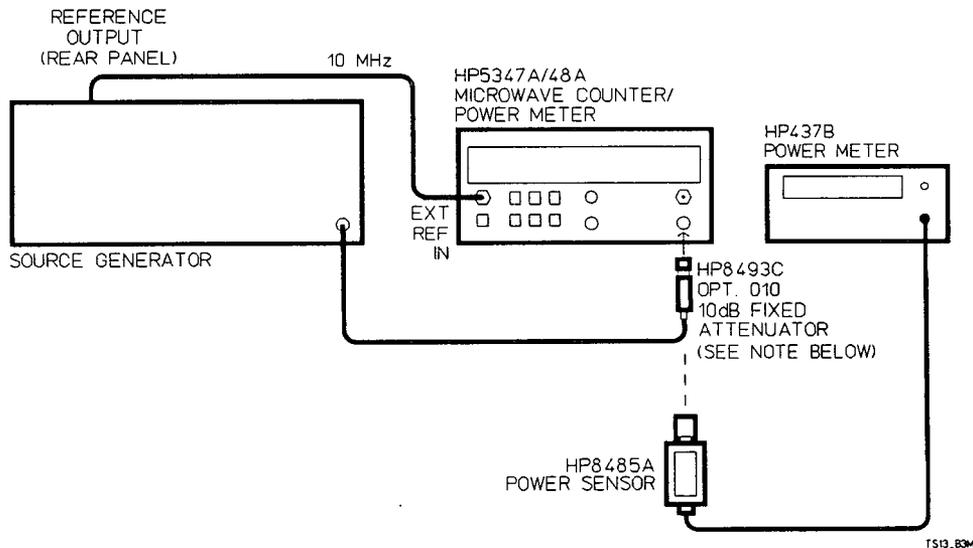
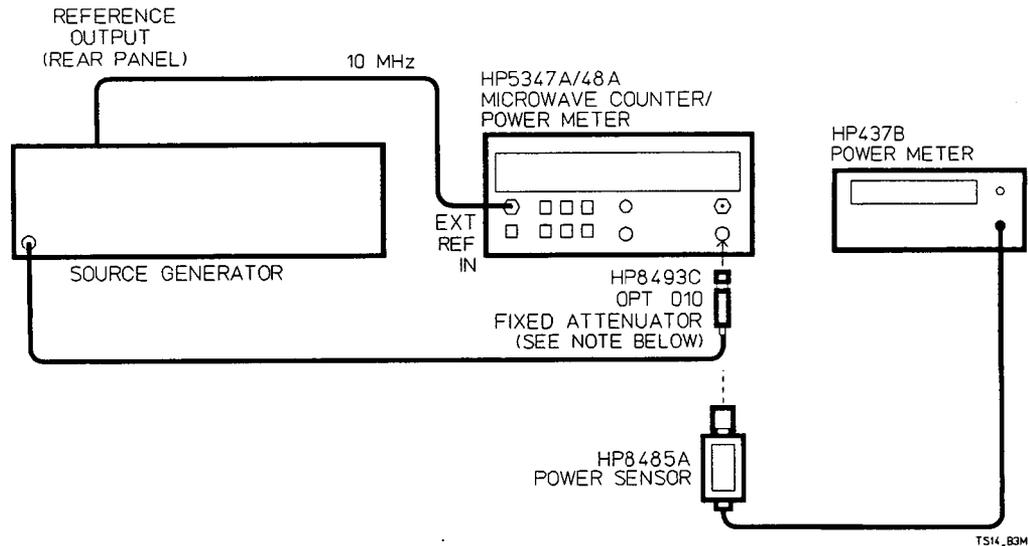

Figure 4-7. INPUT 1, 500 MHz-1 GHz Test Setup
Figure 4-8. INPUT 1, 2.5 GHz-20 GHz [26.5 GHz] Test Setup
The following test is in two parts, *Figure 4-7* is the test setup for Part I (500 MHz to 1 GHz), and *Figure 4-8* is the test setup for Part II (2.5 GHz to 20 GHz [26.5 GHz for HP 5348A]).
Description: In Part I, the HP 5347A/48A is set to the 500 MHz - 20 GHz [26.5 GHz for HP 5348A] range and the appropriate input signal is applied to INPUT 1. The source generator is set to selected frequencies up to 1 GHz, and the actual sensitivity of the HP 5347A/48A is measured. In Part II, the test setup is changed to *Figure 4-8* to measure sensitivity in the 2.5 GHz-20 GHz [26.5 GHz for HP 5348A] range. The source generator is set to the appropriate test level, and the actual sensitivity is measured at selected frequencies up to 20 GHz [26.5 GHz for HP 5348A].
1. Connect the equipment as shown in Figure 4-7.
1. Connect the equipment as shown in *Figure 4-8*.